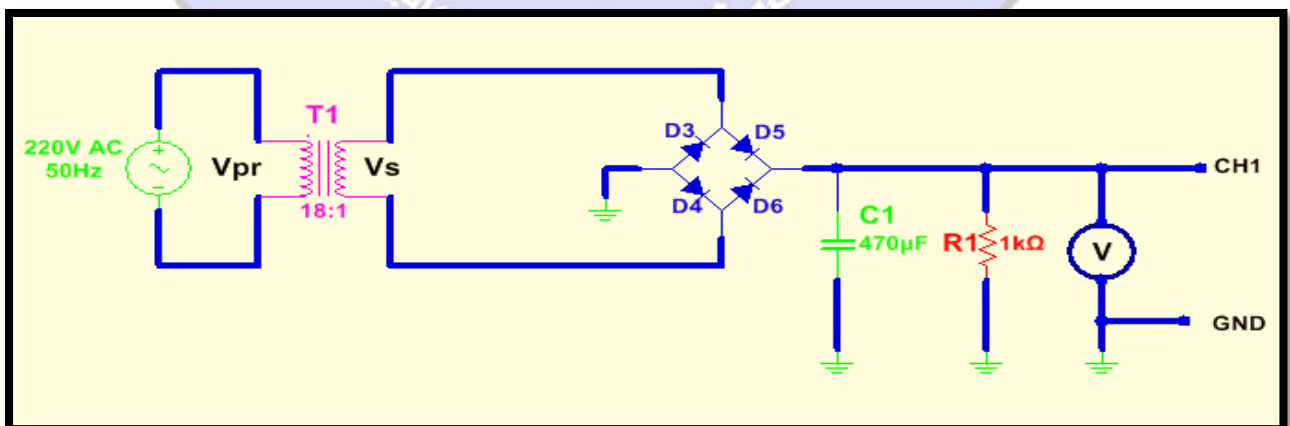

Figure 13: Practical Circuit for the Full-Wave Bridge Rectifier with the Capacitor Filter
8. Connect a capacitor filter at the output of the full-wave bridge rectifier as shown in Fig.13, and measure the DC output voltage and peak-to-peak ripple voltage at the output.